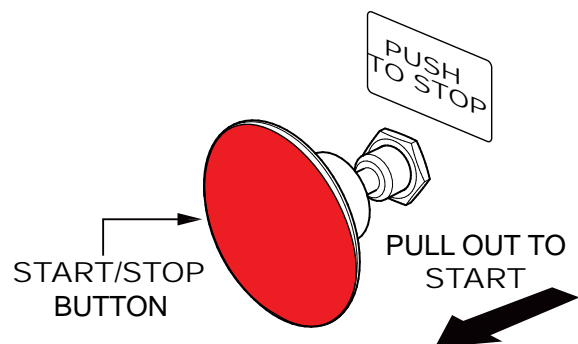

Figure 20. Engine Start/Stop Button
5. Located at the rear of the mixer frame is the main **start/stop** button (Figure 20). Pull this button outward to start the engine.
1. Place the belt slip lever (Figure 20) in the mix position. This will tilt the engine placing tension on the V-belts enabling the shaft to rotate.